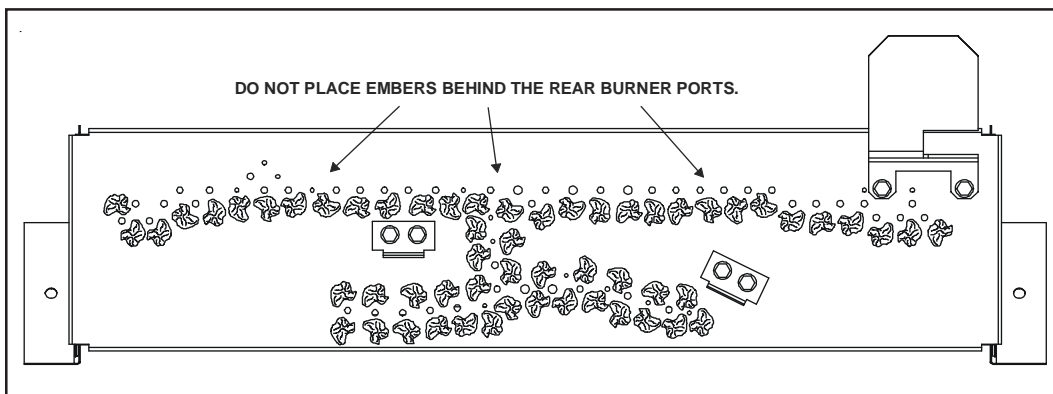

Figure 45. Placement of the Ember Material
- Place small pieces of ember material on burner top around burner ports (Figure 33). Do NOT press embers into burner ports. Cover the top of the burner with a single layer of ember material. Do NOT place embers behind the rear port row as noted in Figure 45.